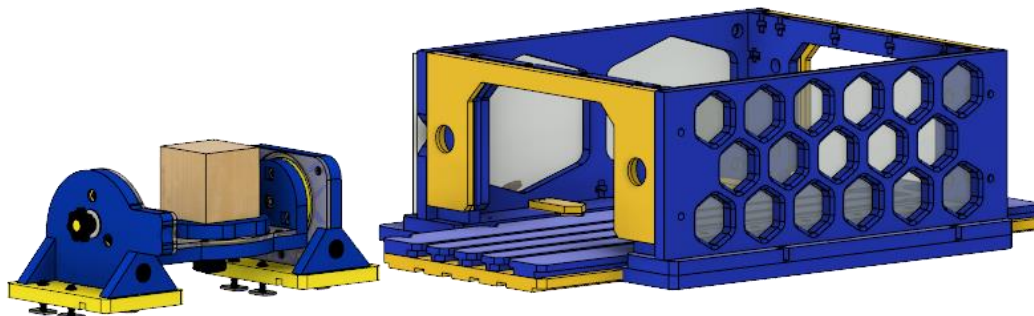

Figure 8
- 3) Slide the weld nuts into the grooves on the accessory base tray, making sure that all the nuts are aligned and that there is a groove to accept the guide rails on the yellow base plates (Figure 8).